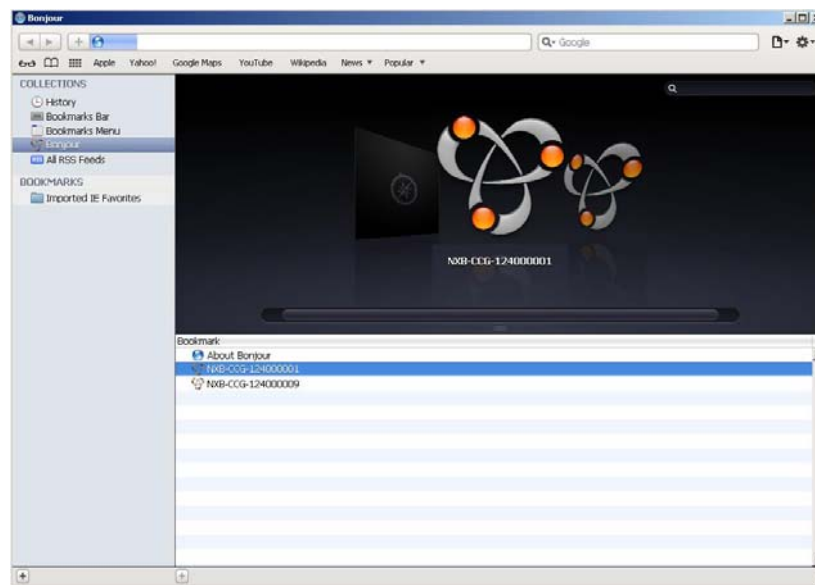

FIG. 7 Bonjour browser layout
3. Select the icon that corresponds to the host name of the NXB-CCG-K or select it from the bookmark list (FIG. 7).